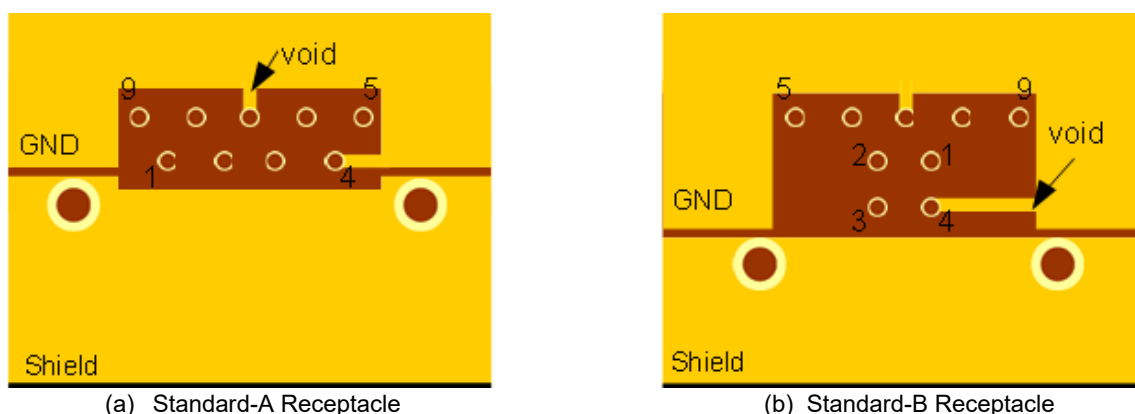
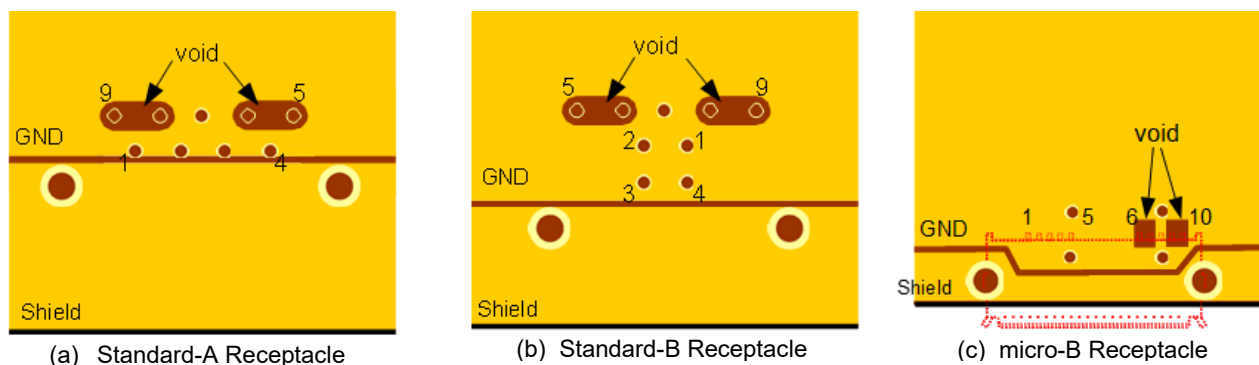

Figure 23. Void Entire Area Around Pins
Figure 24. Void Only Around SS Pins
When using two ground planes around a USB 3.0 receptacle – one for the earth pattern and the other for the cable shield at the same DC level – maintaining the differential impedance of the SuperSpeed (SS) traces is critical. To achieve this, remove metal patterns around the differential pair pins and surround them with voids, as shown in Figure 23 and Figure 24. Additionally, do not route any traces between the differential pair pins to preserve impedance.